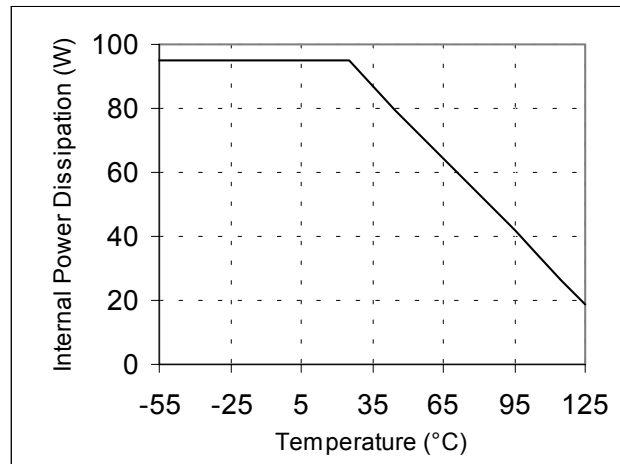

Figure 3. Maximum Average Power Dissipation vs. Case Temperature (TO-3 package)
4. Case Temperature  $T_C = 25^\circ\text{C}$  (see Figure 3).